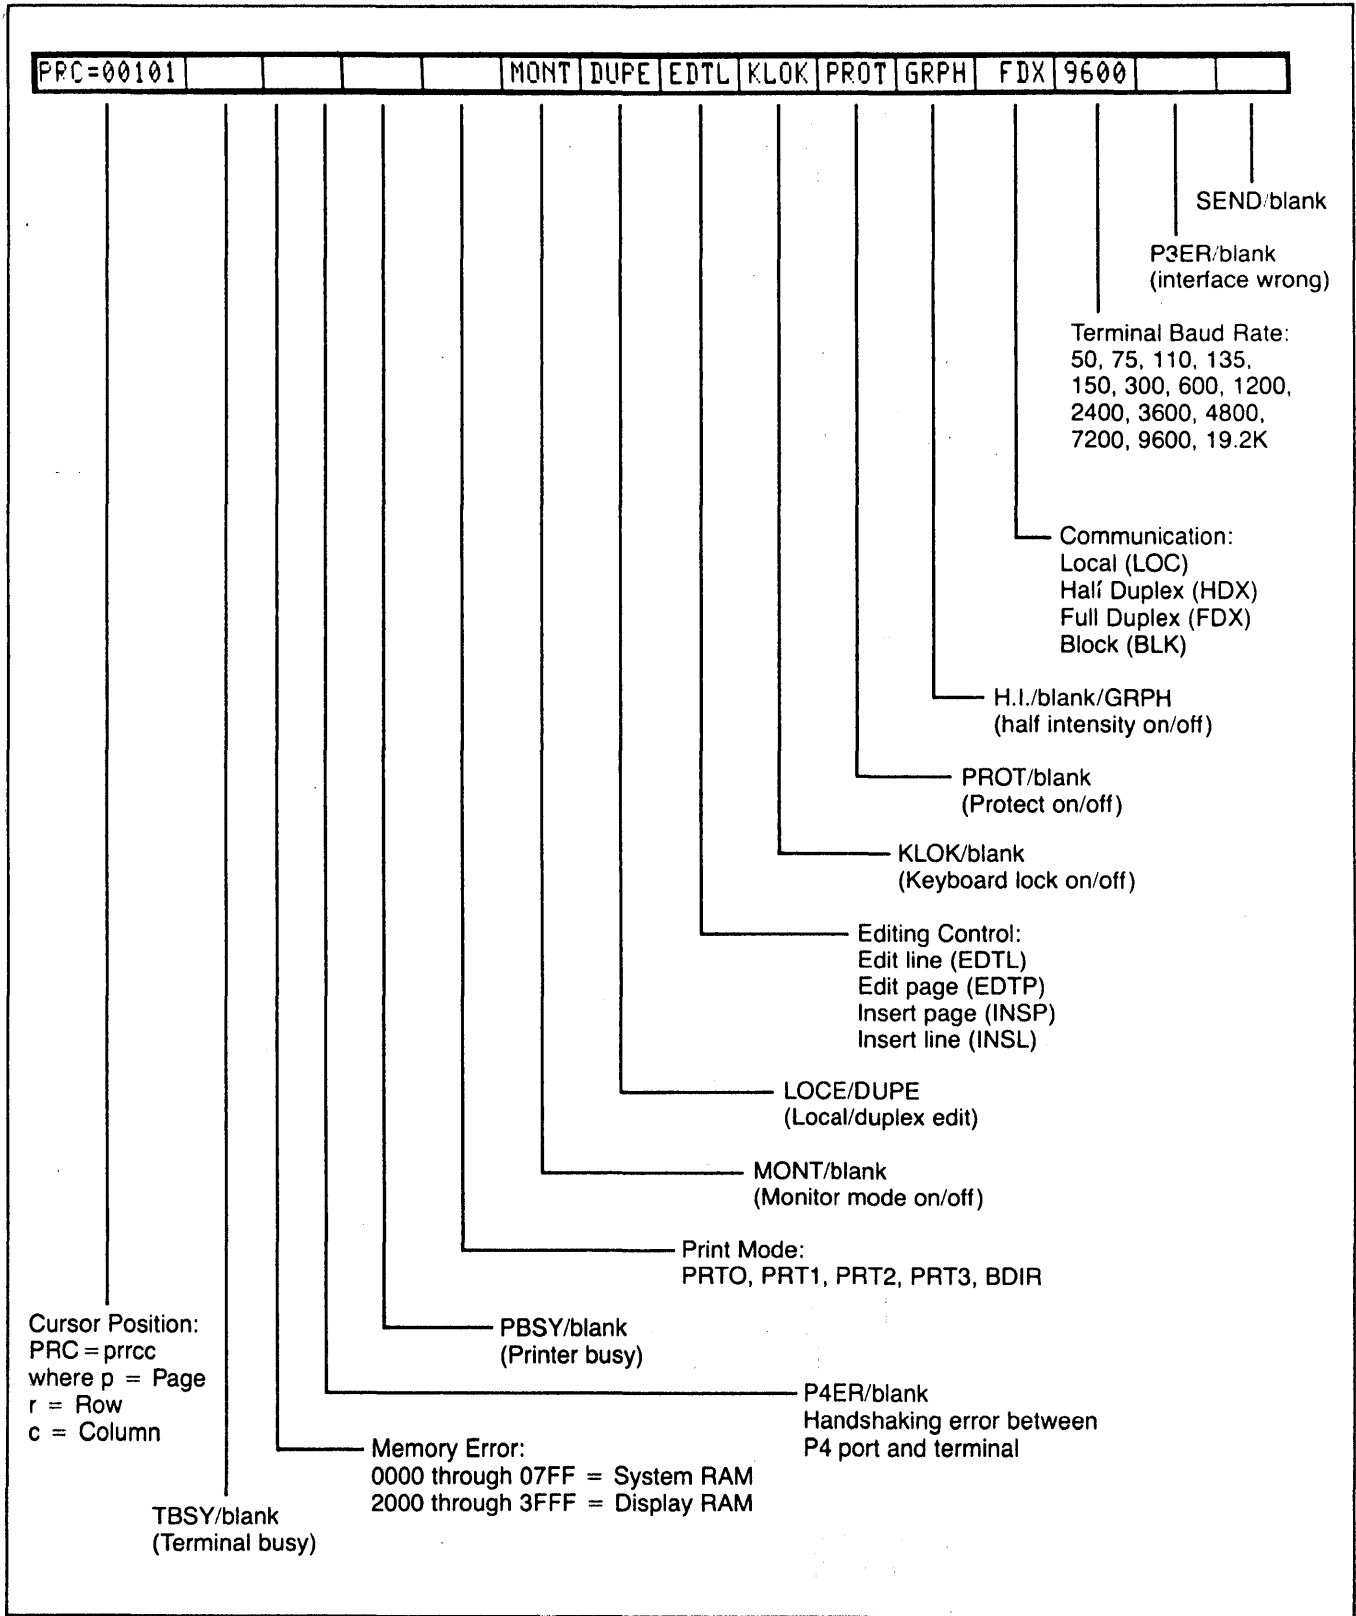

Figure 3-3 Status Line Fields
The possible values for the status line are summarized in Figure 3-3 and described in greater detail in the following sections.
3. Press T to change the values of a block. Figure 3-3 lists the values which may appear in the status line blocks.